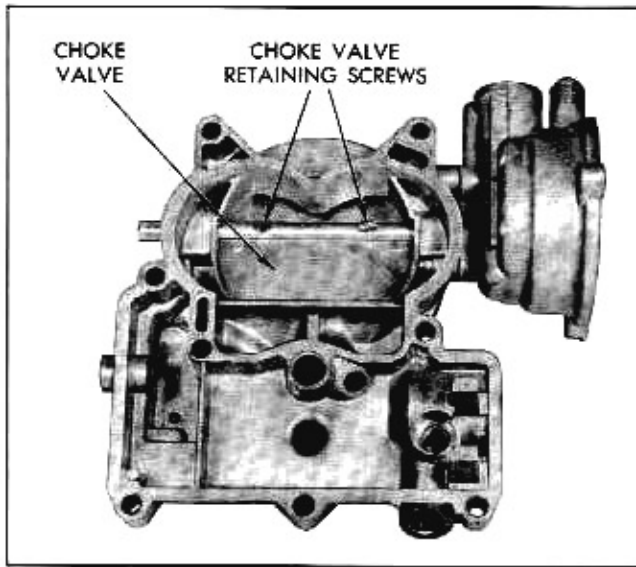

Fig. 6B-44 Location of Choke Valve Retaining Screws
18. Remove two choke housing attaching screws (Fig. 6B-45).